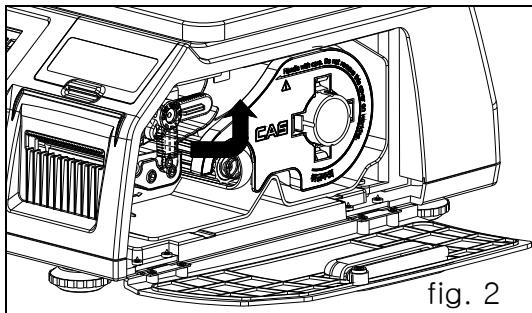

fig. 2
- 2) Lift up TPH lever as fig.2.